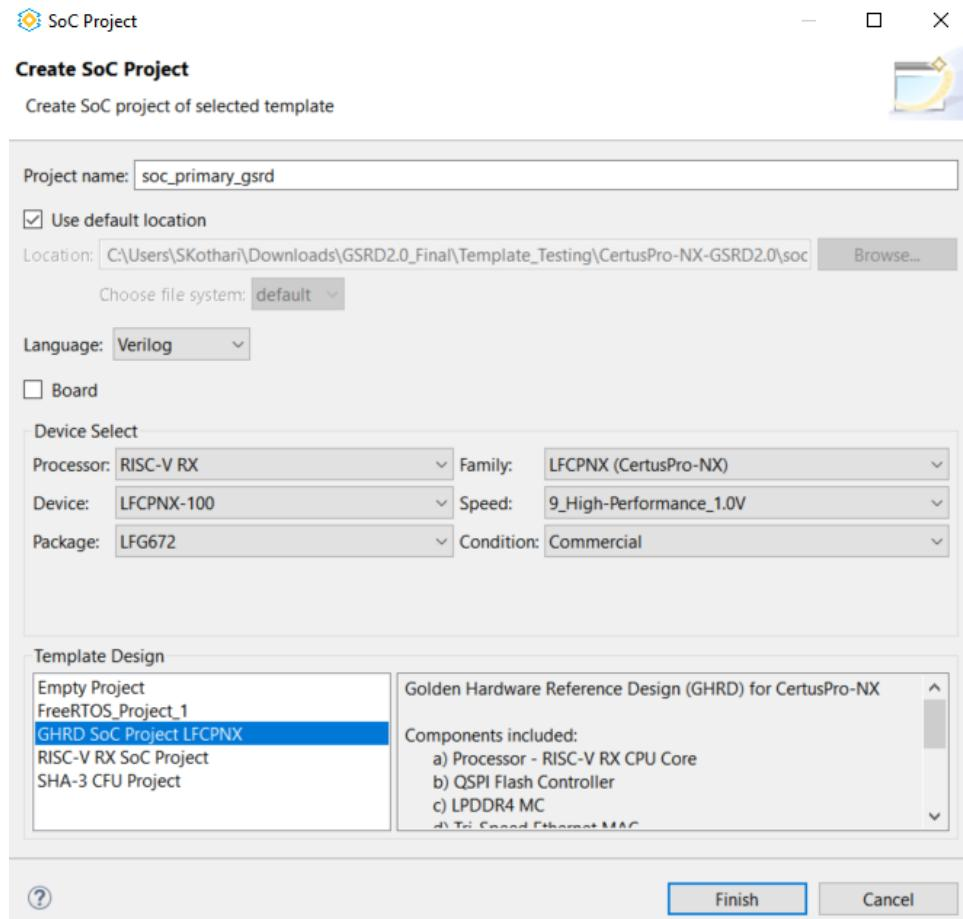

Figure 8.4. SoC Project Window
5. On the SoC Project window, provide name for your SoC project. Choose Processor as **RISC-V RX**, Family as **LFCPNX**, Device as **LFCPNX-100**, Package as **LFG672**, and choose the GHRD SoC Project LFCPNX from Template Design as shown in Figure 8.4. Since you can make your own desired modifications to this project, the project name is called as **soc_primary_gsr**.